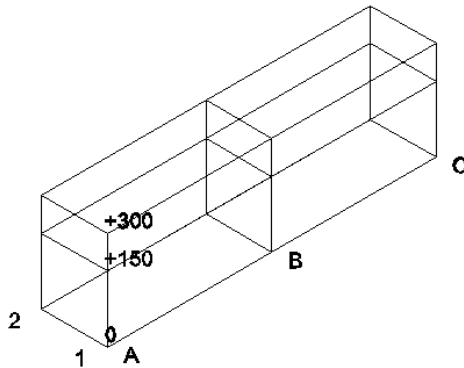

Figure 3-28 Model after creating the grid
3. Next, choose the **Create** button from the dialog box; the grid is created, as shown in Figure 3-28. Note that the view orientation in the figure is set to **SW Isometric**. You can set the view orientation to **SW Isometric** by choosing the **SW Isometric** option from the **3D Navigation** drop-down list in the **View** panel of the **Structure** tab.